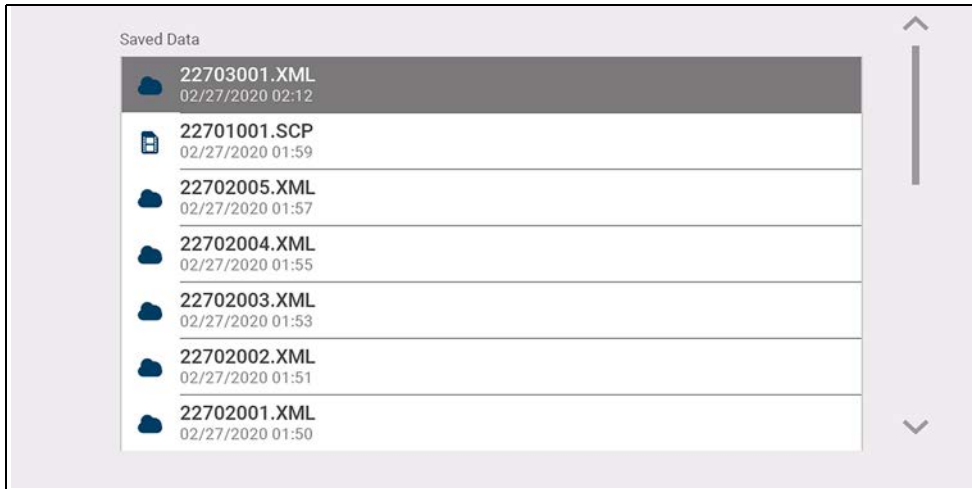

Figure 12-2
- **All Saved Data** - Lists all saved files (Figure 12-2)
Code scans and single system code results are saved as (.XML) files, and can be selected from the All Saved Data list or Scanner list (Figure 12-2).